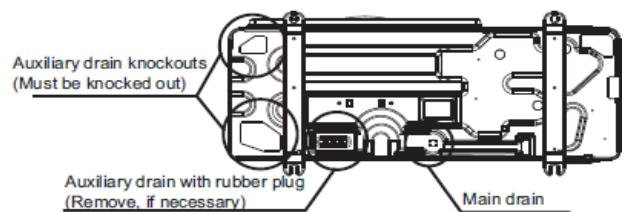

Fig. 7 — Drain Connections
- Create an outlet near the base for drainage. Refer to Fig. 7 below for main drain connection.